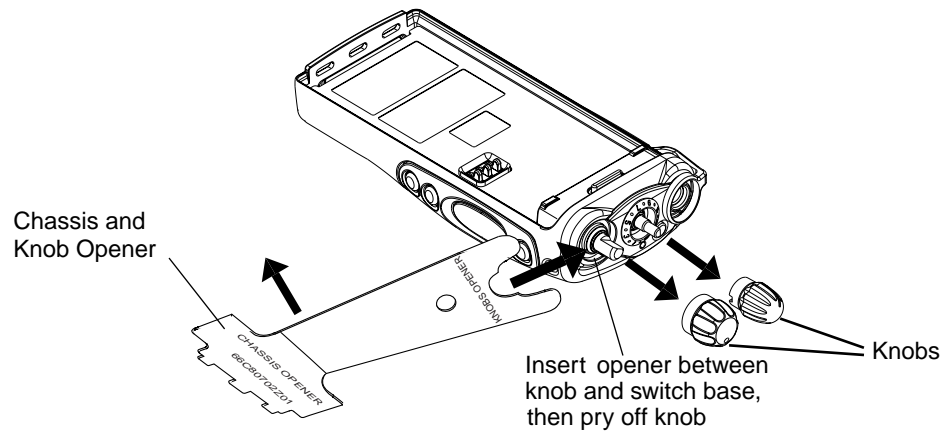

Figure 3-2. Knob Removal
6. Using the chassis and knob opener tool, remove the volume and channel selector knobs off of their shafts as shown in Figure 3-2.